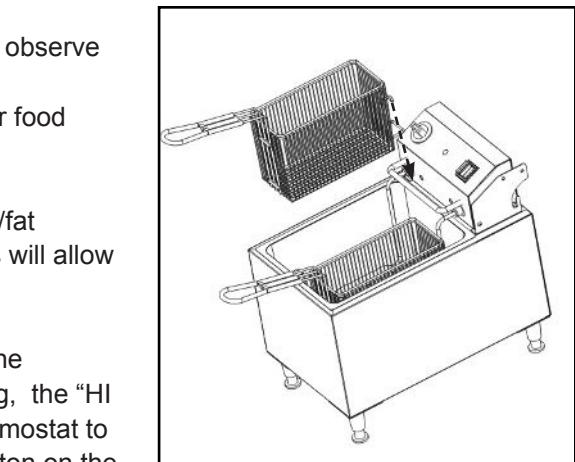

Fig. 11-1
- Once the food is cooked, carefully lift the baskets from the oil/fat and allow the baskets to rest on the supports (Fig. 11-1). This will allow any excess oil/fat to drain back into the oil pan.